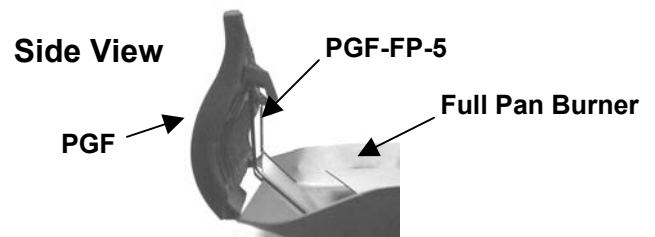

Figure 3
1. The 2 = PGF-FP-5 tabs are used to hang the pedestal grate facing on the full pan burner. (Fig. 3)
3. **Part B Embers** (rockwool) are placed over the sand to simulate glowing embers. For best results pinch off pieces of the Part B material the size of a dime and feather it out. Place as much as desired over the area the gas comes through. (See Figure 3.)